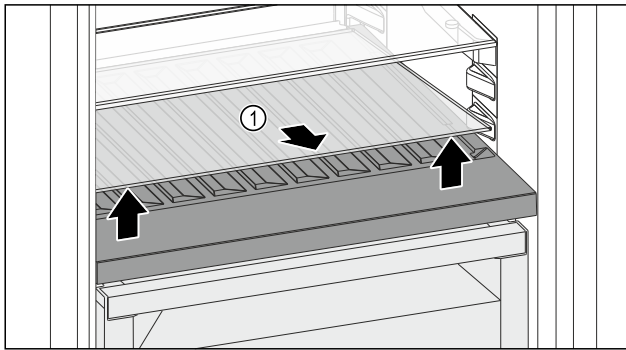

Fig. 147
- Lift the glass shelf Fig. 147 (1) at the front and remove.
- Store the glass shelf Fig. 147 (1) in a safe place outside the appliance.
- Insert the glass shelf (2) under the variable bottle rack.